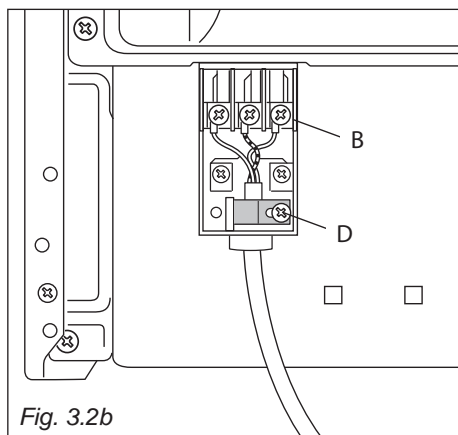

Fig. 3.2b
- Unscrew cable clamp “D” (fig. 3.2b).